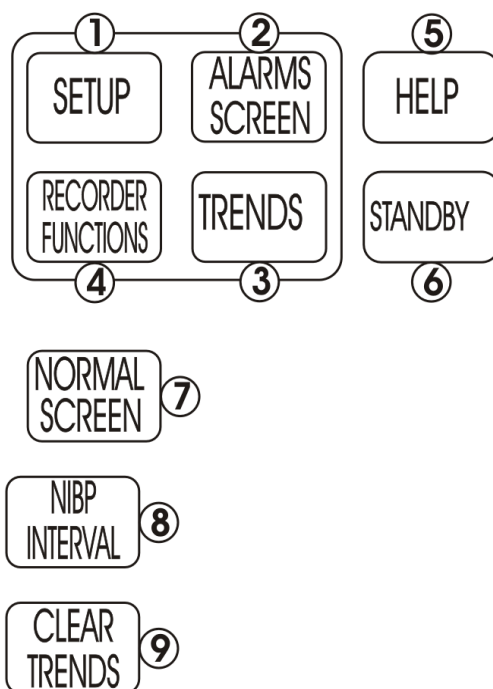

Figure 1-3. Menu-Select and Operation Keys
- c. **Menu-Select Keys.** (See **Figure 1-3**) The Menu-Select keys allow the operator to specialize the operation of the **3155A/3155MVS Monitor** to suit specific procedures and/or situations. Pressing a Menu-Select key will activate the “pop-up” menu for the selected feature which is then controlled by the Rotary Knob so that the associated parameters may be adjusted. The four Menu-Select keys are **SETUP**, **ALARMS SCREEN**, **RECORDER FUNCTIONS** and **TRENDS**.
- (1) **SETUP. (Item 1)** The **SETUP** key allows the operator to access the various available setup options (See **Section 3**).
- (2) **ALARMS SCREEN. (Item 2)** The **ALARMS SCREEN** key allows the operator to setup the Alarms monitoring feature (See **Section 6**). If operating a dual monitor system, with a 3155A and 3155MVS communicating with the 3150(M), the adjustments made here are interactive between the two 3155 monitors to ensure that the monitored parameters remain consistent between all components of the MRI monitoring system.
- (3) **TRENDS. (Item 3)** The **TRENDS** key allows the operator to setup the Trend monitoring feature. The exact operation of the **TRENDS** key is based on whether or not a feature is currently highlighted. If a feature is currently highlighted, pressing the **TRENDS** key will bring up a Trend which is specific to the highlighted feature; if a feature is not currently highlighted, pressing the **TRENDS** key will bring up the HISTORY Menu and Tabular Display (See Section 5).
- (4) **RECORDER FUNCTIONS. (Item 4)** The **RECORDER FUNCTIONS** key allows the operator to setup the Recorder option (See Section 5).
- d. **Operational Keys. (See Figure 1-3)** There are five Operational keys: **HELP**, **STANDBY** and **NORMAL SCREEN**.
- (1) **HELP. (Item 5)** The **HELP** key is for future operational enhancement.
- (2) **STANDBY. (Item 6)** Pressing the **STANDBY** key places the **3155A/3155MVS Monitor** into the Standby Mode. The monitor stays in Standby Mode until the **STANDBY** key is pressed a second time. Except for the three (3) key features given below, the monitor operates normally by continuing to provide current patient information on the Display Screen. If operating a dual monitor system, with a 3155A and 3155MVS communicating with the 3150(M), pressing this key will place both monitors into the Standby Mode.